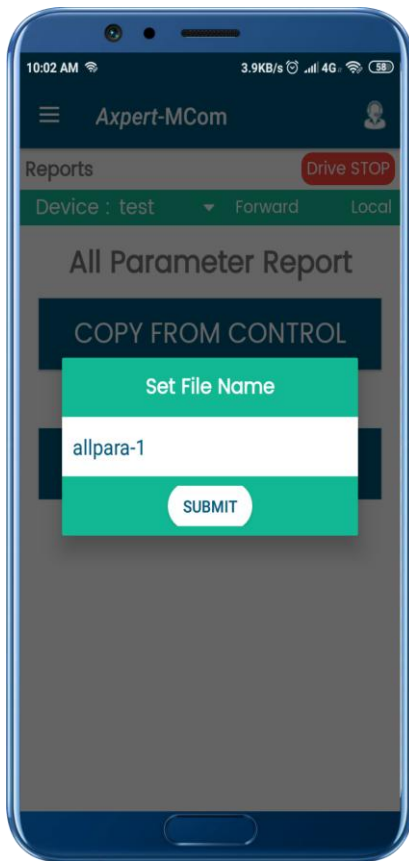

Figure 20: Enter file name for parameters
- Click on **COPY FROM CONTROL** to copy all user parameters from product. Enter the filename with which the file shall be generated in the “**Axpert Mcom**” folder created in your phone storage, after the copying operation is completed (Figure 20).